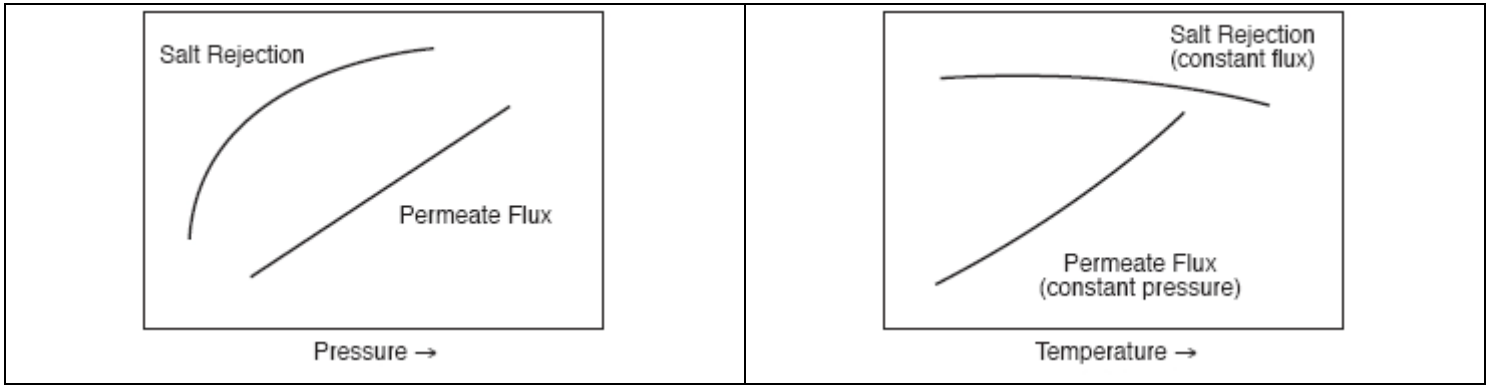

Figure 4 - Comparison of Operating and Cleaning Parameters for Thin-Film Composite Membrane and a CA Membrane
The ability of a membrane to tolerate elevated temperatures increases operating latitude and is also important during cleaning operations because it permits use of stronger, faster cleaning processes. This is illustrated by the comparison of the pH and temperature ranges of thin-film composite (TF) membrane and a cellulose acetate (CA) membrane in Figure 4.
The pH tolerance of various types of RO membranes can vary widely. Thin-film composite (TF) membranes are typically stable over a broader pH range than cellulose acetate (CA) membranes and, therefore, offer greater operating latitude (please see Figure 4).
As illustrated in Figure 4, the stability of TF membrane over a broad pH range permits stronger, faster, and more effective cleaning procedures to be used compared to CA membranes